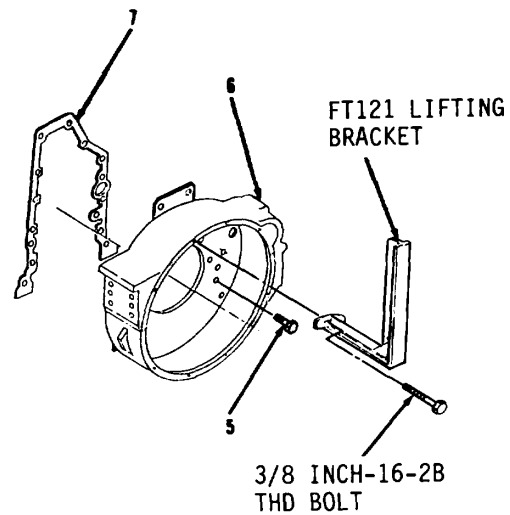

Figure 3-42.
8. Install FT121 lifting bracket and 3/8-16-2B THD bolt to flywheel housing (6, Figure 3-42).
1. Position new gasket (7, Figure 3-42) on rear of engine block. Use gasket cement to hold new gasket (7) in place.
2. Install FT121 lifting bracket and 3/8-16-2B THD bolt on flywheel housing (6).
10. Trim new gasket (7) even with bottom of cylinder block and flywheel housing (6, Figure 3-42).